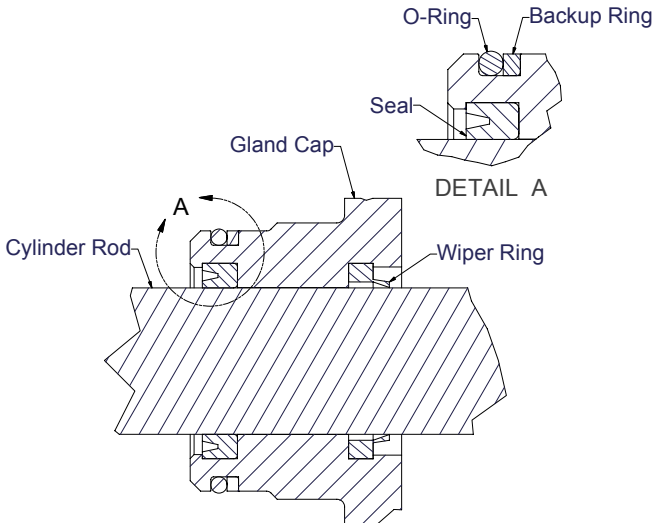

Figure 4-11, Gland Cap Seal
3. Install the seals and wipers in the gland cap. Note the direction of the seals. The cupped side or O-Ring side of the seal should be facing the piston. (Figure 4-11)